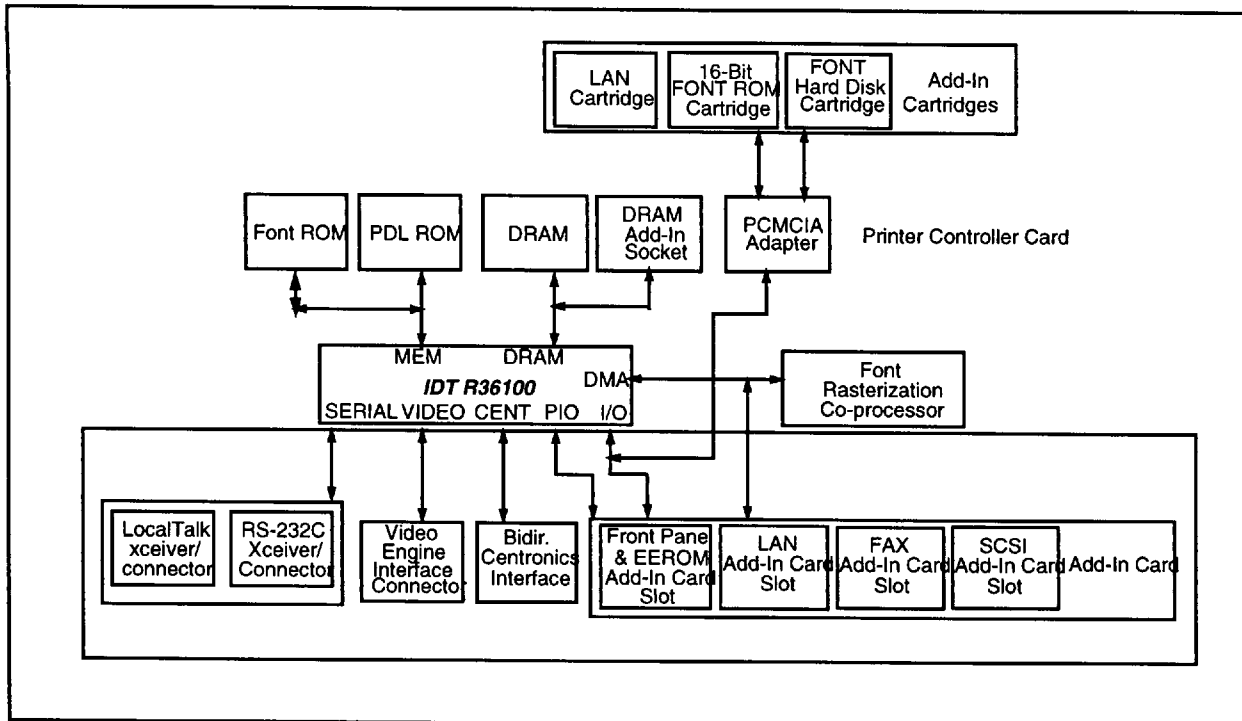

Figure 2. R36100-based Printer System
Figure 2 demonstrates the low-system cost inherent in the R36100. In this example system, which is typical of a low-cost laser printer, a 32-bit PROM interface is used due to the size of the PDL interpreter. Other embedded systems could optionally use an 8-bit or a 16-bit PROM, or even an interleaved 64-bit interface. A 16-bit font cartridge interface is provided through PCMCIA for add-in cards and a 32-bit page buffer DRAM is used for high-resolution.
- In Figure 2, clarified directional arrows.